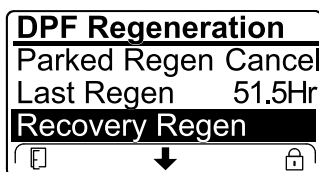

Figure 48
- If the engine computer has not requested a recovery regeneration and you scroll down to the RECOVERY REGEN option, the recovery regeneration locks and the lock icon (Figure 48) appears in the lower right corner of the InfoCenter.